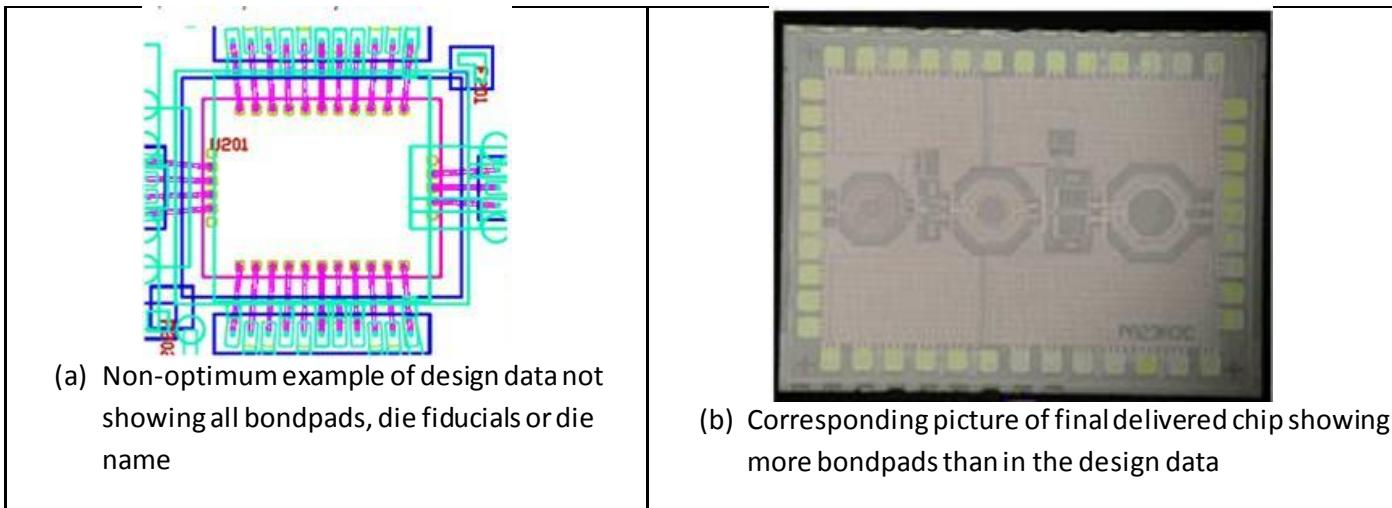

Figure 46 Non-optimum example for chip design data vs. actually delivered design
- Die bondpads must include all bondpads (not only the ones used), as well as all relevant features that are required to avoid misunderstanding (die name, die fiducials, other unique features that allow recognize/confirm orientation eg. coils). Figure 46 shows a non-optimum example of module design data vs. final delivered chip.